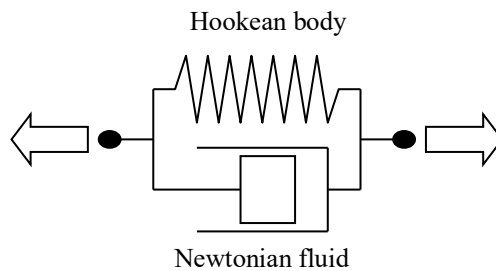

Figure 2
- (2) Timber contains a large amount of moisture soon after being logged. How does its strength change when it is seasoned? Draw its change schematically in a graph with its moisture content on the horizontal axis and its strength on the vertical axis. And explain the features and the reason of its change.
- (3) Creep deformation of timber is expressed by Voigt model as shown in Figure 2, in which Hookean body and Newtonian fluid are connected in parallel. The modulus of elasticity of the Hookean body and the shear coefficient of viscosity of the Newtonian fluid are E and η , respectively. Answer the following questions when the stress σ_0 is applied to the model at the time $t=0$ and is kept constant.